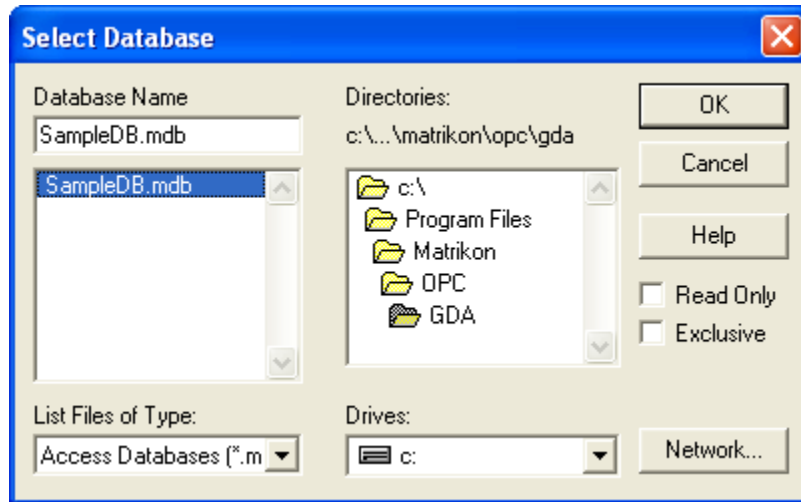

Figure 98 - Select Database Window
12. The **Select Database** window (Figure 98) appears.